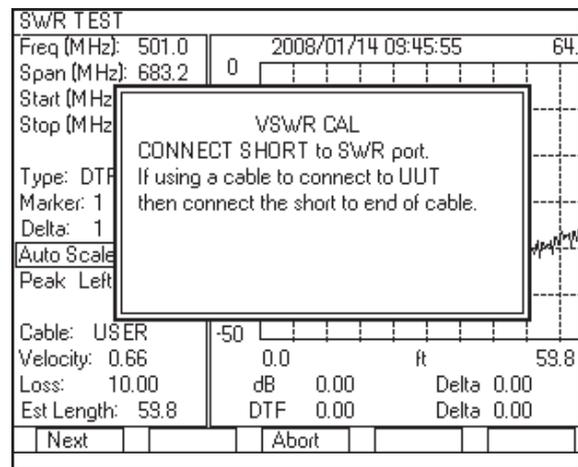

Figure 18 - SWR Test screen with Cal procedure started
1. You start the calibration procedure by pressing the Cal softkey. The screen shown in Figure 18 should appear.